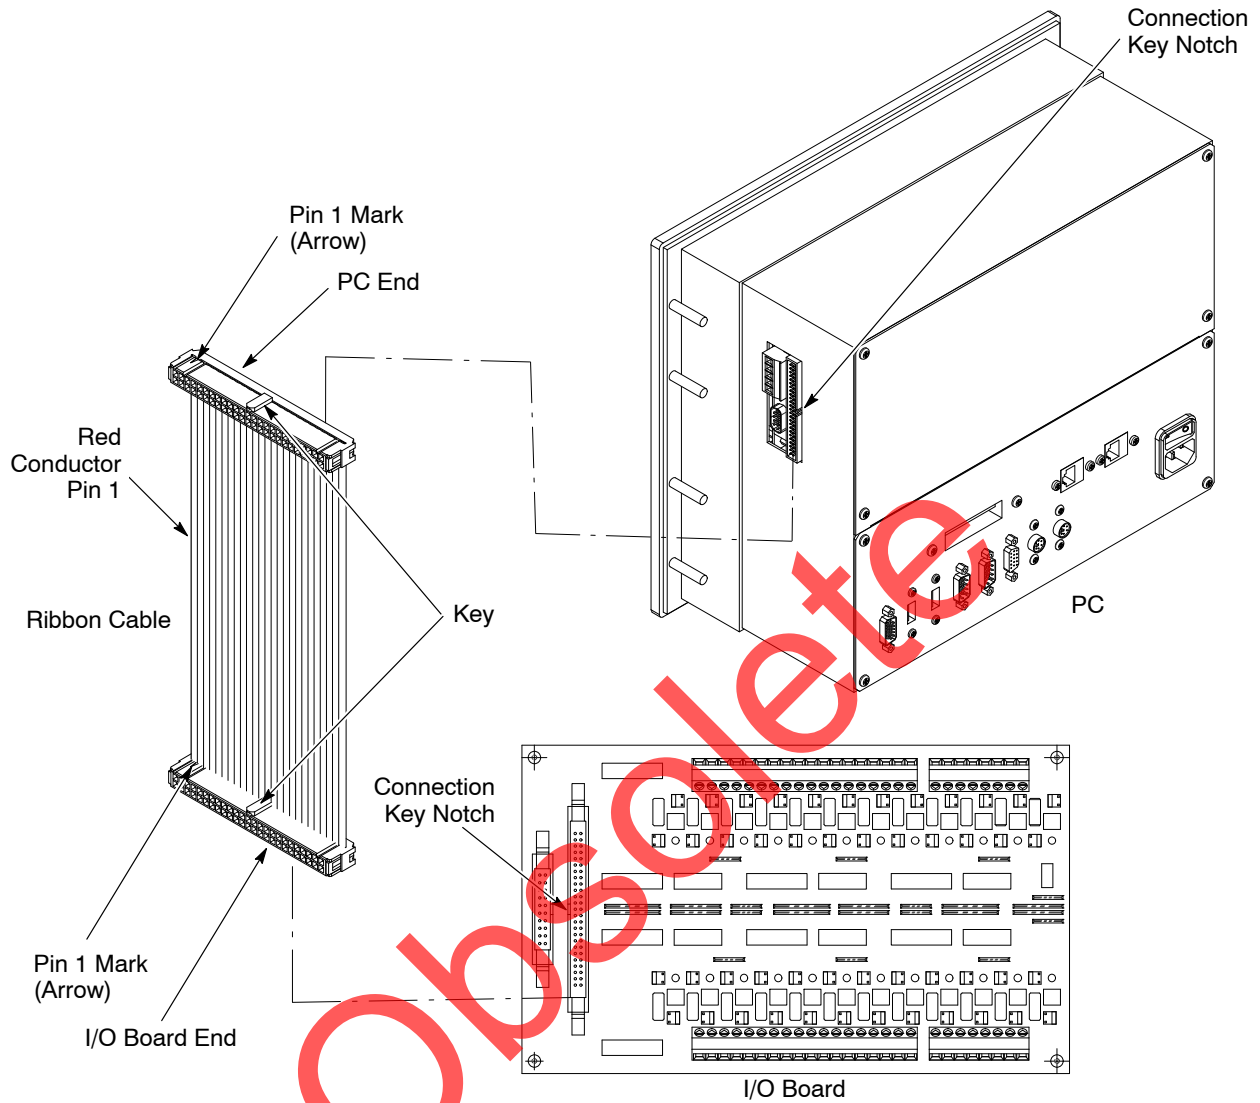

Figure 5-4 Computer-I/O Board Ribbon Cable Connections
3. See Figure 5-4. A new ribbon cable is provided with the PC. Use it to connect the PC to the digital input module.